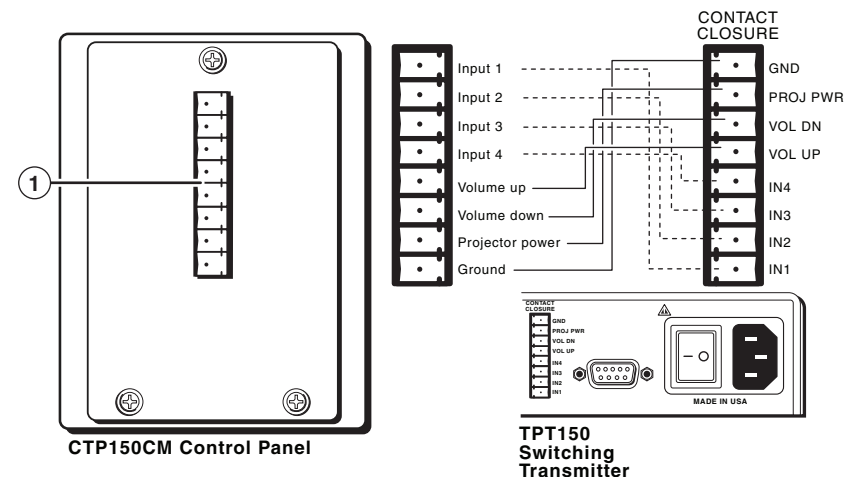

Figure 2-6 — Rear panel view
- ① **Contact closure connector** — This connector is a 3.5 mm, 8-pole captive screw connector for contact closure connections. Connect a Category (Cat) 5 cable or any 8-conductor cable between the remote control panel and the switching transmitter, as shown in figure 2-6.